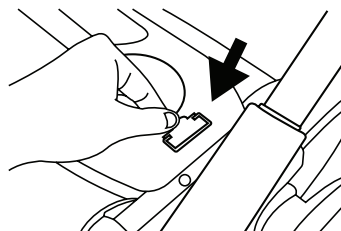

Fig. 6f
- **To remove the child tray:** push the tabs outward and pull out the child tray (Fig. 6f). **NOTE:** The canopy may also be installed without the child tray. Insert the ends into holes.